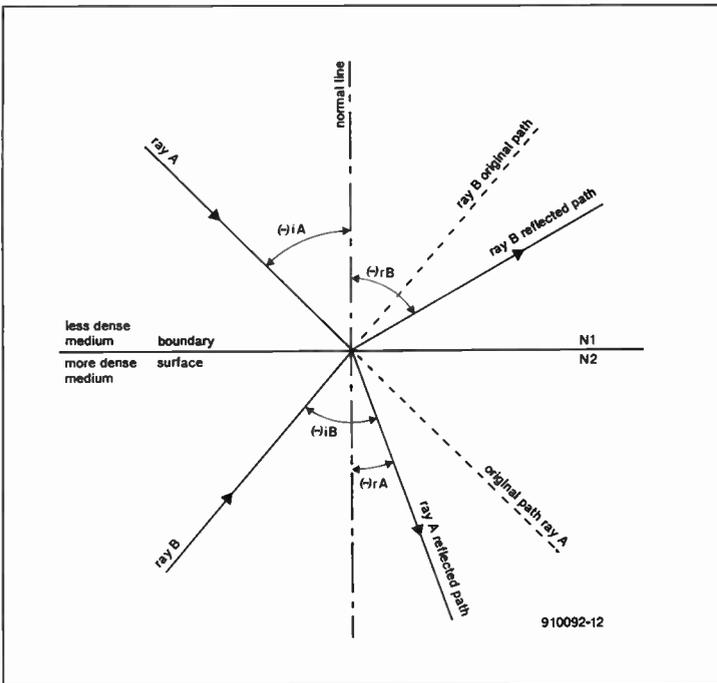
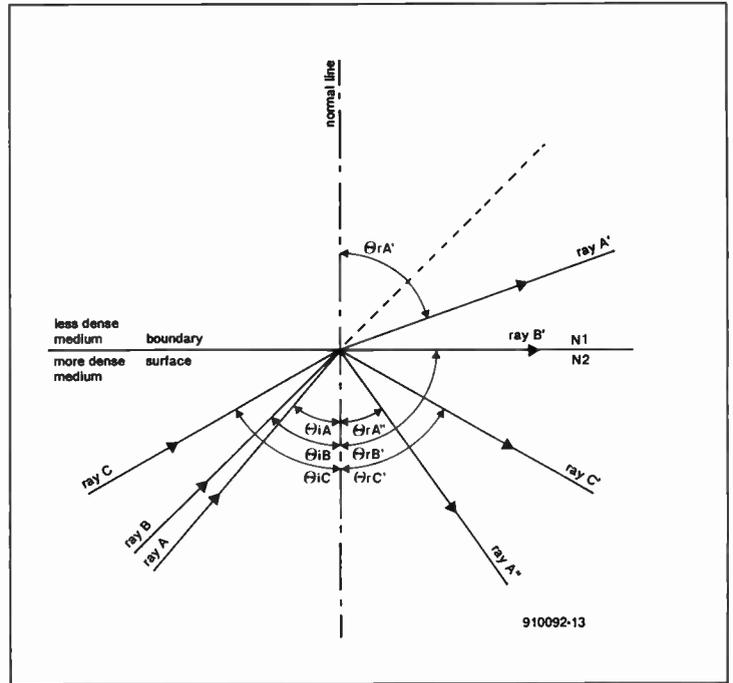

Fig. 2. Basic refraction phenomenon.
Fig. 3. Refraction involved in 'total internal reflection'.
Refraction is the phenomenon in which a light ray changes direction as it passes across the boundary surface (or 'interface') between two mediums of differing indices of refraction ( $n_1 \neq n_2$ ). Consider Fig. 2 in which two materials, with indices of refraction  $n_1$  and  $n_2$  respectively. Consider incident lightray A, approaching the interface from the less dense side ( $n_1 \rightarrow n_2$ ). As it crosses the interface it changes direction towards a line normal (i.e., at right angles) to the surface. Conversely, lightray (B) approaches the interface from the
The particular case which concerns fiber optics is where the light ray passes from a more dense medium to a less dense medium. We can use either a water to air system, or a system in which two different glasses, with dissimilar indices of refraction, are interfaced. This type of system was addressed in Fig. 2 by ray B. Figure 3 shows a similar system with three different lightrays (ray A, ray B and ray C) approach the same point on the interface from three different angles ( $i_a$ ,  $i_b$  and  $i_c$ , respectively). Ray A approaches at a subcritical angle, so it will split into two portions (A' and A''). The reflected portion (A'') contains a relatively small amount of the original light energy, and may indeed be nearly indiscernible. The major portion of the light energy is transmitted across the boundary, and refracts at an angle  $r_a'$  in the usual manner.